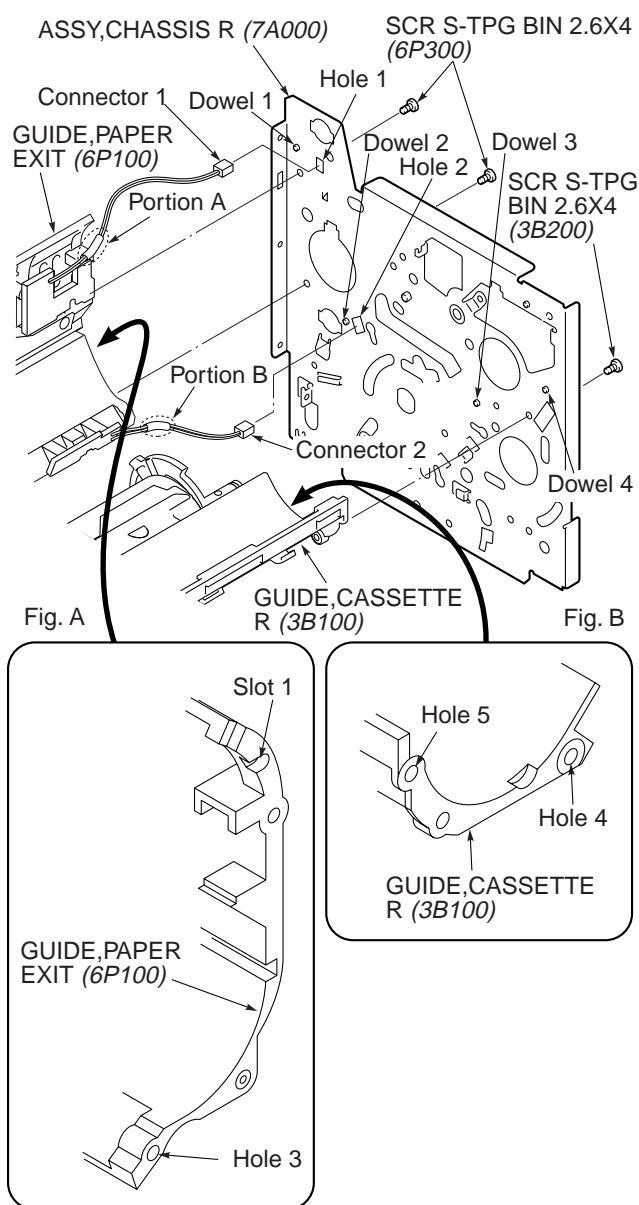

Fig. 3-14-2
- 3) Remove the “SCR S-TPG BIN 2.6X4 (3B200)” on the “ASSY,CHASSIS R (7A000)” side. (Refer to Fig. 3-14-2.)
- 4) Remove the two “SCR S-TPG BIN 2.6X4 (6P300)” on the “ASSY,CHASSIS R (7A000)” side. (Refer to Fig. 3-14-2.)
- 5) Pull connector 1 and connector 2 out from each hole. (Refer to Fig. 3-14-2.)
6. Pass connector 1 and connector 2 through hole 1 and hole 2 on the “ASSY,CHASSIS R (7A000)” respectively, and put portion A and portion B over hole 1 and hole 2 respectively. (Refer to Fig. 3-14-2.)
7. Insert dowel 1 into slot 1 and insert dowel 2 into hole 3 as shown in Fig. 3-14-2. (About slot 1 and hole 3 on the “GUIDE,PAPER EXIT (6P100)”, refer to Fig. A of Fig. 3-14-2.)
8. Insert dowel 3 into hole 4 and insert dowel 4 into hole 5 as shown in Fig. 3-14-2. (About hole 4 and hole 5 on the “GUIDE,CASSETTE R (3B100)”, refer to Fig. B of Fig. 3-14-2.)